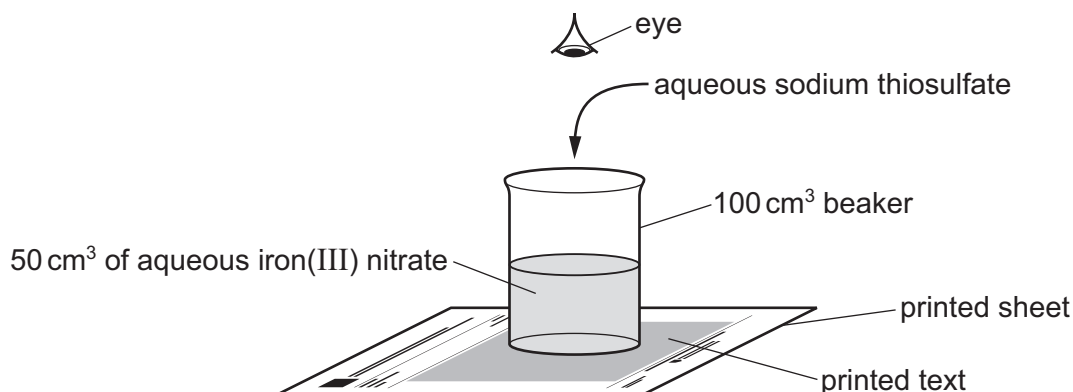

Fig. 2.1
The student does five experiments using the apparatus shown in Fig. 2.1.
- Stand the beaker on the text of the printed sheet as shown in Fig. 2.1.